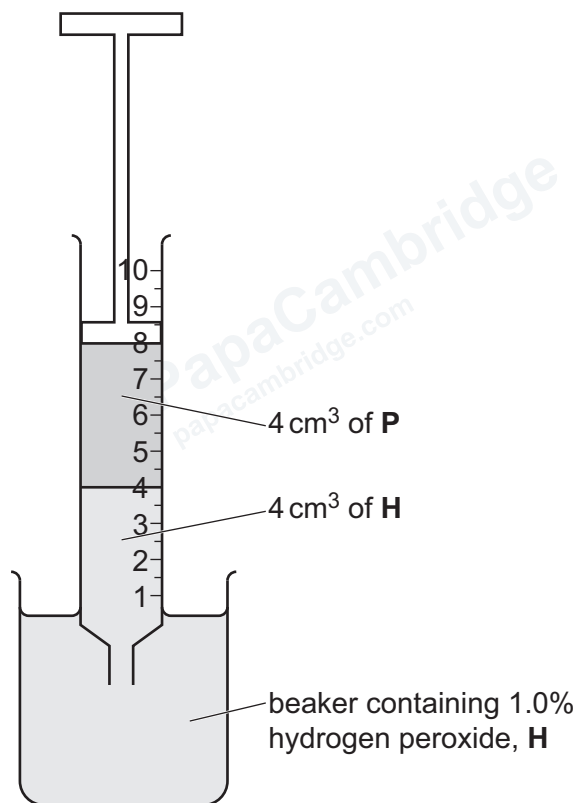

Figure 1.2
- step 7 Pull the plunger out to the 8 cm^3 mark so that 4 cm^3 of **H** enters the syringe, as shown in Figure 1.2.